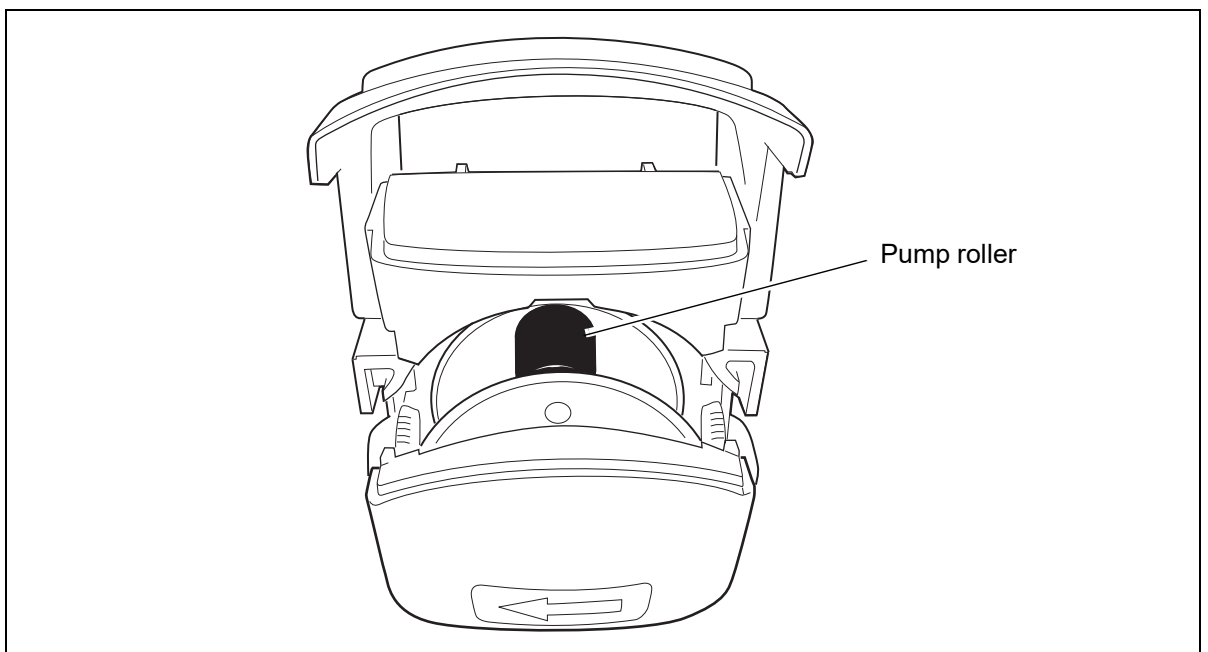

Figure 3.6
13. Manually rotate the roller in the pump head to align it centrally as shown in Figure 3.6